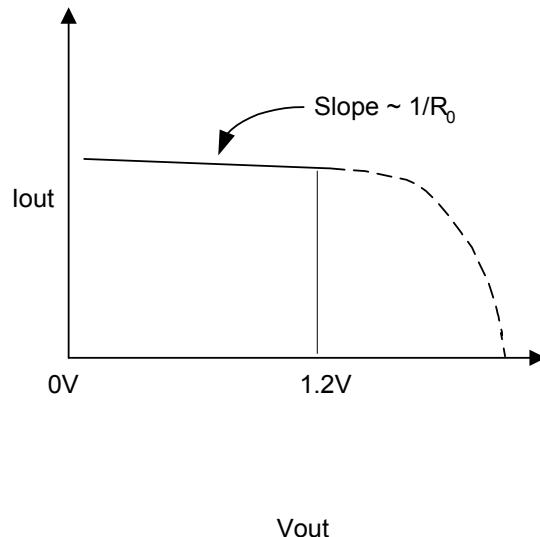

Figure 14. Buffer Characteristics
1. Output impedance of the current mode buffer circuit – R_o (see Figure 14).
2. Minimum and maximum required voltage operation range of the circuit – V_{op} (see Figure 14).
3. Series resistance in the buffer circuit – R_{os} (see Figure 14).